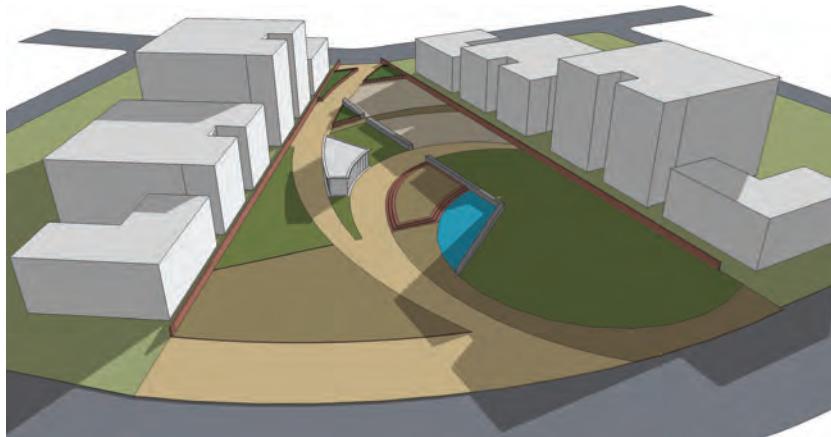

Fig. 18-34: The completed Flatwork Base. Select all the geometry and convert the base into a group. Place the group on the Flatwork layer.
5. To complete the model, add the site objects and elements to the base (Fig. 18-34). This is reviewed in the next chapter.